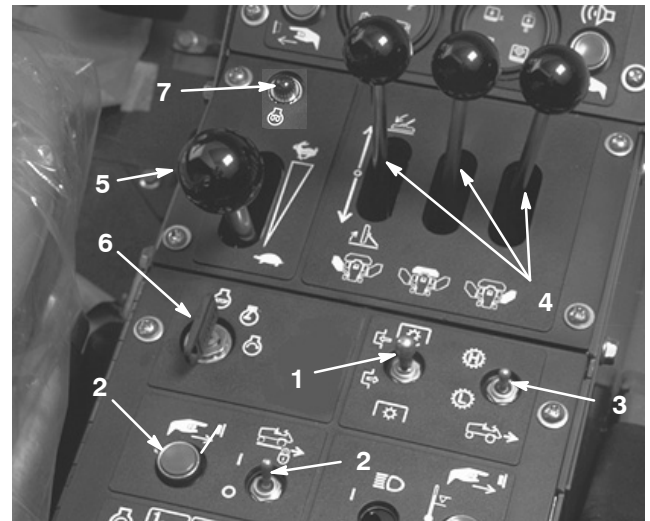

Figure 26
3. Rotate ignition key switch to START position (Fig. 26). Release key immediately when engine starts and allow it to return to RUN position.